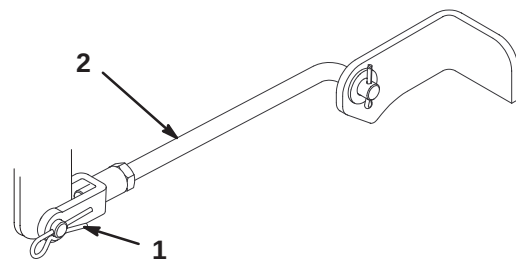

Figure 43
3. Remove the hairpin cotter and clevis pin from the front trunion yokes (Fig. 43).
6. Attach the front trunion rods to the tractor with the clevis pins and hairpin cotters (Fig. 43).